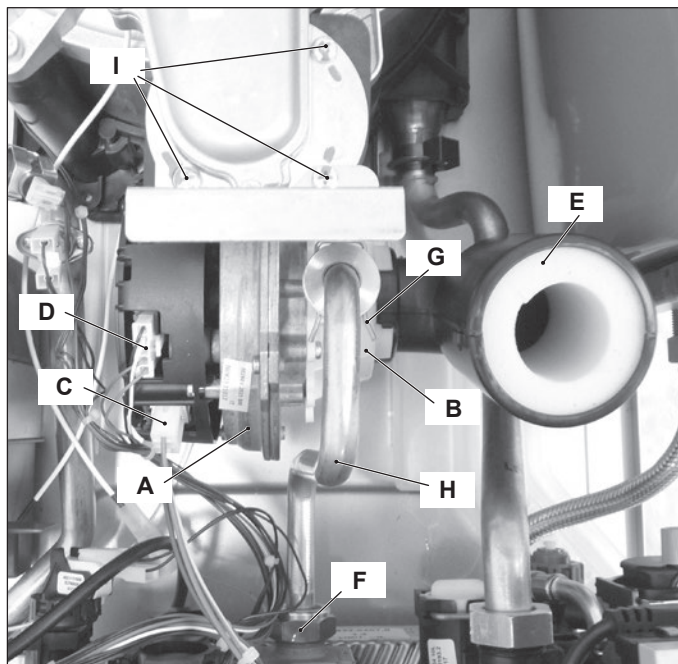

Figure 17.2
- 3 Disconnect the air manifold "E" (Figure 17.2).
Before reassembling ensure the fan gasket (Figure 17.2) is correctly mounted.